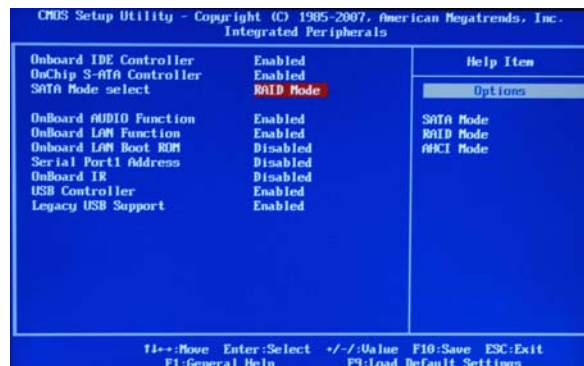

Figure 1.5 Integrated Peripherals Screen
- 3 From the Integrated Peripherals Window, globally set SATA Mode select to RAID Mode (see Figure 1.5).